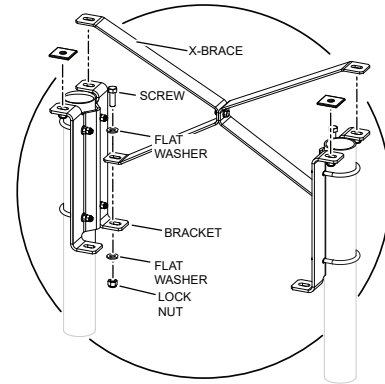

Figure 13. Securing X-Brace to Brackets
5. Secure X-Brace to brackets using screws (2), flat washers (8), and lock nuts (8). See Figure 13.
6. Align and place plate washer on remaining two bracket mounting locations. See Figure 13.